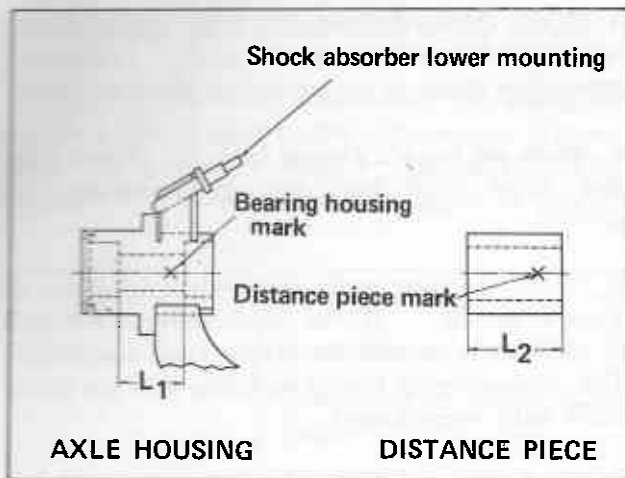

Fig. RA-20
4. When replacing the suspension arm, measure the dimension L_1 and L_2 (See Fig. RA-20).